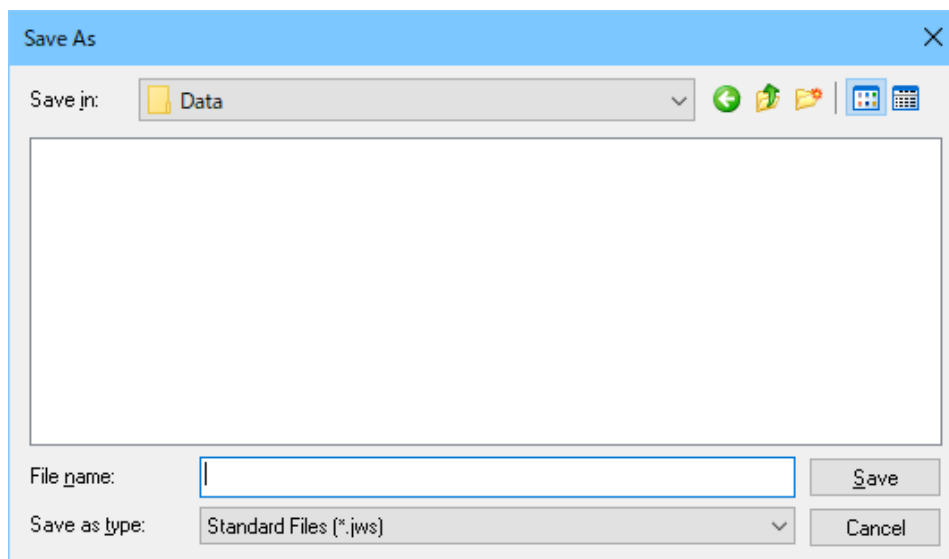

Figure 4.16 [Save As] dialog box
- (1) Select [Save As...] from the [File] menu in the [Spectra Analysis] program to display the dialog box in Figure 4.16.